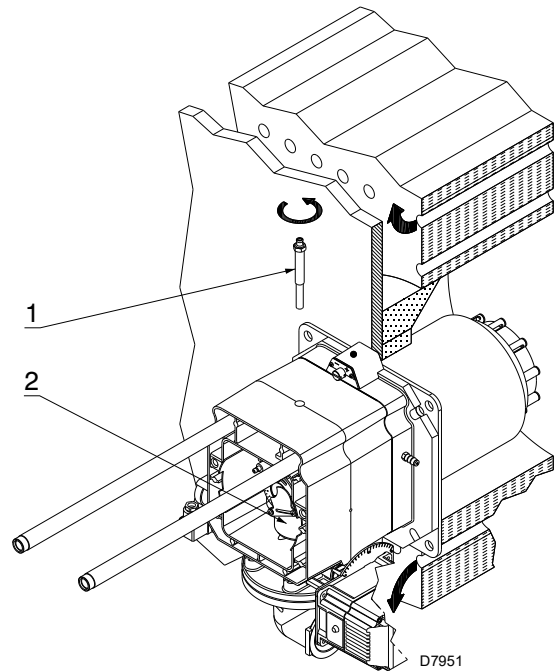

Fig. 15
- remove the screw 1)(Fig. 15);
- extract the inner part 2)(Fig. 15) of the head, and adjust them.
At this point of the installation, the combustion head is fixed to the boiler as shown in Fig. 15. It is therefore especially easy to adjust, and this adjustment depends only on the maximum output of the burner.